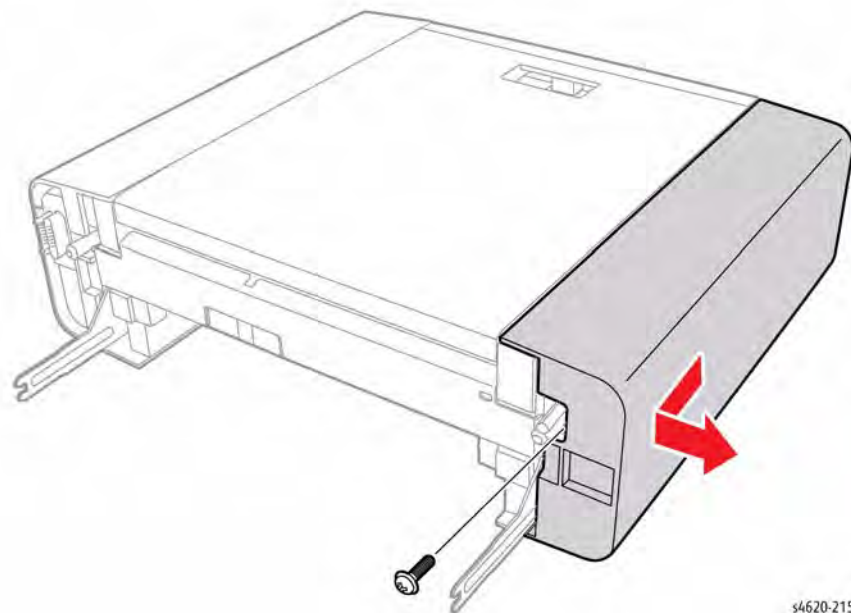

Figure 1 Remove the Left Cover
3. Remove 1 screw and release 1 hook that secures the Left Cover to the Mailbox, Figure 1.